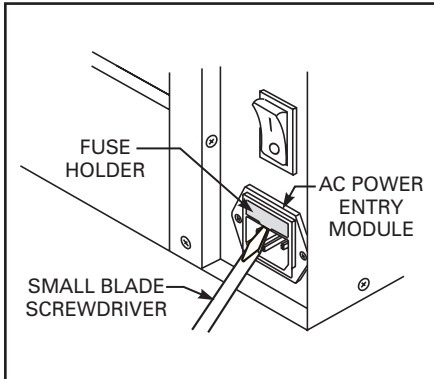

Figure 3
1. Using a small blade screwdriver or similar tool, remove the Fuse Holder which is part of the AC Power Entry Module at the rear of the printer. Refer to Figure 3.